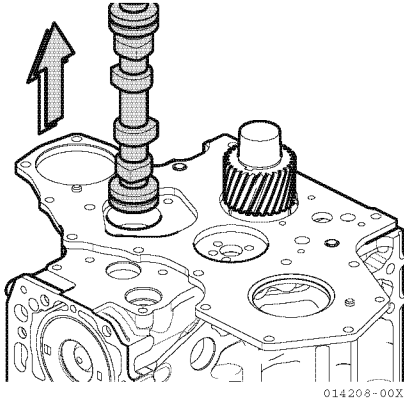

Figure 5-49
43. Remove the camshaft (**Figure 5-49**):